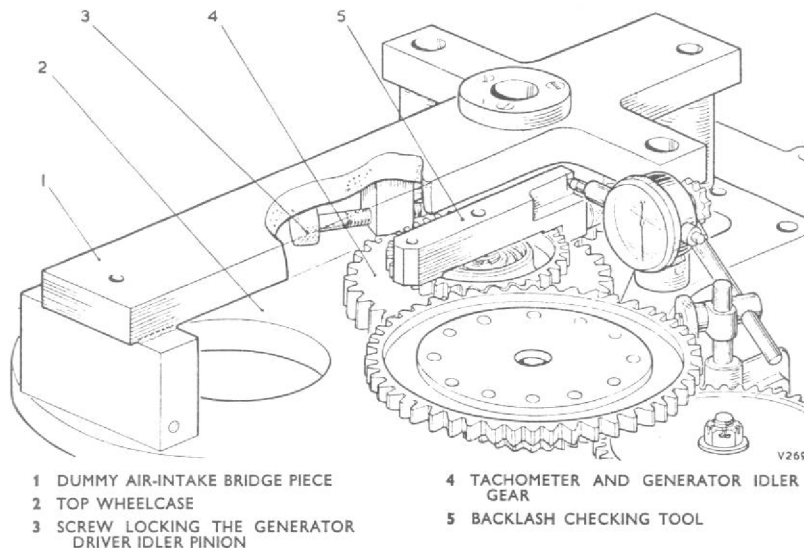

Fig. 22. Generator idler pinion backlash check
- (1) Remove the blanks from the top wheelcase.
- (2) Assemble the generator casing to the top wheelcase and secure it with slave nuts.
- (3) Locate the dummy air-intake bridge piece T77243, over the idler gear spindle, in the dowel holes of the bottom face of the wheelcase and secure it with slave nuts.
- (4) Tighten the screw on the bridge piece so that it locks the generator drive idler pinion.
- (5) Clamp backlash checking tool T77244 onto the tachometer and generator drive idler gear.
- (6) Clamp a dial test indicator to the wheelcase and locate the stylus on the scribed line of the backlash checking tool.
- (7) Check that the backlash between the tachometer and generator idler gear and the generator idler pinion is within the limits (fig. 22).